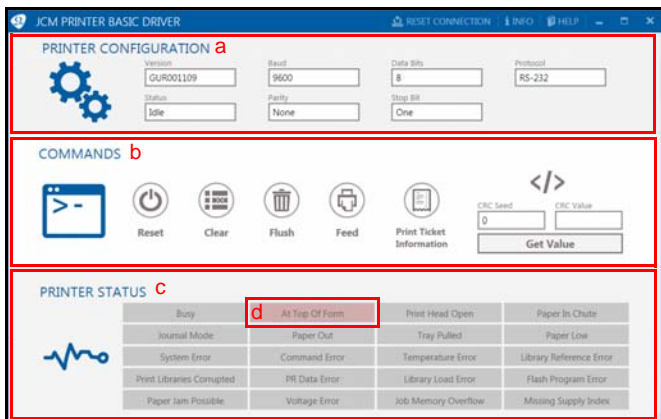

Figure 12 JCM Printer Basic Driver Main Screen
The JCM Printer Basic Driver Main Screen (Figure 12) displays three main sections:
1. PRINTER CONFIGURATION (Figure 12 a)
2. COMMANDS (Figure 12 b)
3. PRINTER STATUS (Figure 12 c)
PRINTER CONFIGURATION (Figure 12 a)
COMMANDS (Figure 12 b)
PRINTER STATUS (Figure 12 c)
NOTE: Any active condition appears highlighted in RED (Figure 12 d)